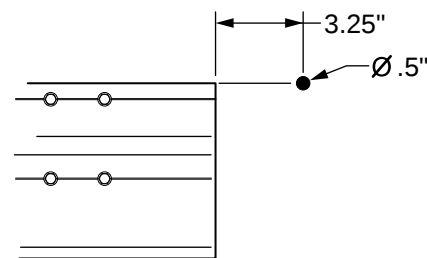

Figure 4. Cable Routing Hole.
12. *For motorized configurations.* Drill one (1) 1/2" hole through outer wall as shown in Figure 4. RH configuration is shown, for LH configuration reverse end location. (Hole is behind the awning motor.)